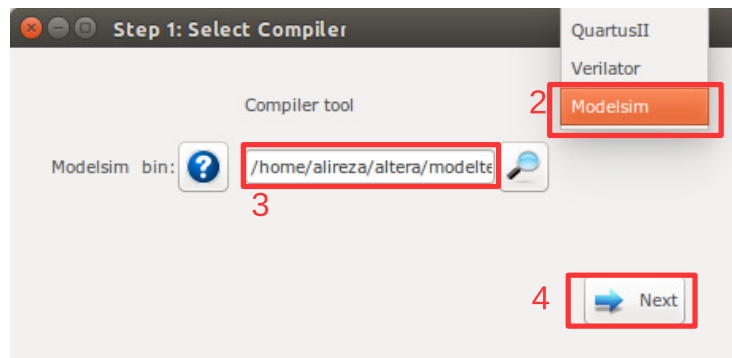

Figure 5.14: Select Modelsim as simulator.
1. Press the  **Compile RTL** button in right down corner. This should open "select compiler window" as shown in Figure 5.14.